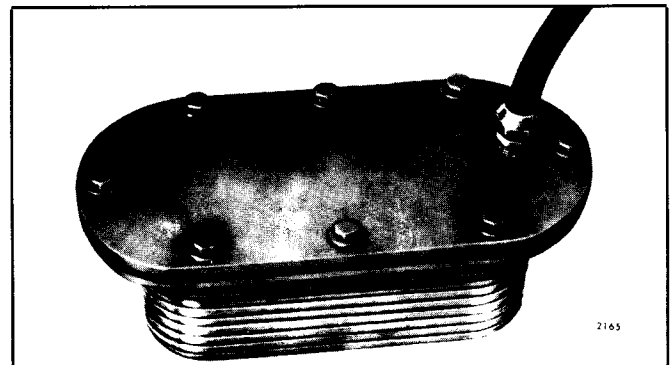

Fig. 3 - Preparing Oil Cooler Core for Pressure Test
1. Make a suitable plate and attach it to the flanged side of the cooler core. Use a gasket made from rubber to assure a tight seal. Drill and tap the plate to permit an air hose fitting to be attached at the inlet side of the core (Fig. 3).